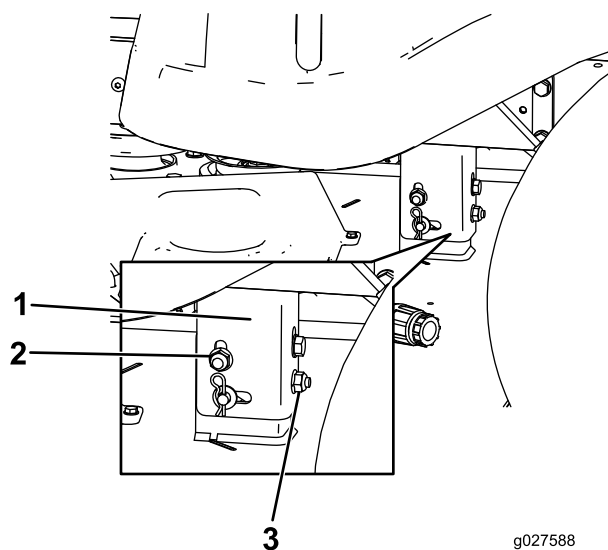

Figure 53
- Raise or lower the left side of the mower deck by rotating the rear locking nut. (Figure 53).